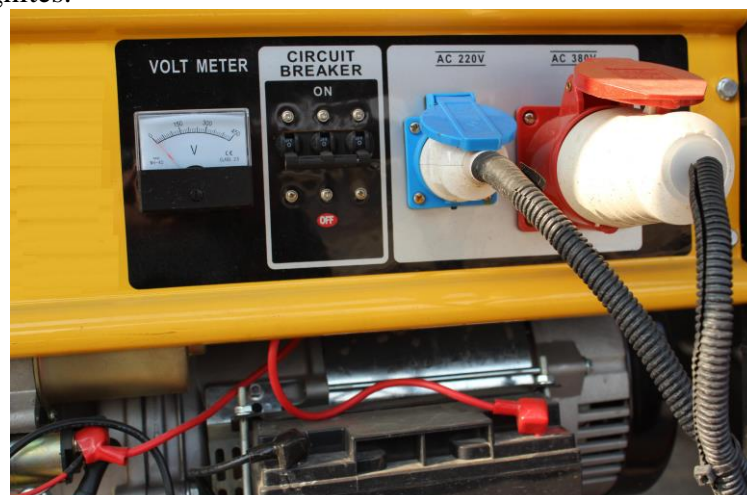

Fig. 9 Gasoline Generator
3. Start the generator (as shown in Fig. 9). Also, an external power supply can be used.
2. Switch on the "Heat Transfer Oil Pump" switch in the temperature control box (as shown in Fig. 9), and the heat transfer oil pump will rotate. Check if the output pressure of heat transfer oil pump is 0.1 - 0.15MPa. In this case, the heat transfer oil just circulates internally.
5. If the indication light of heat transfer oil (Fig. 9) is lit, it means insufficiency of the heat conducting oil volume and it must be filled up, or ignition cannot be carried out.